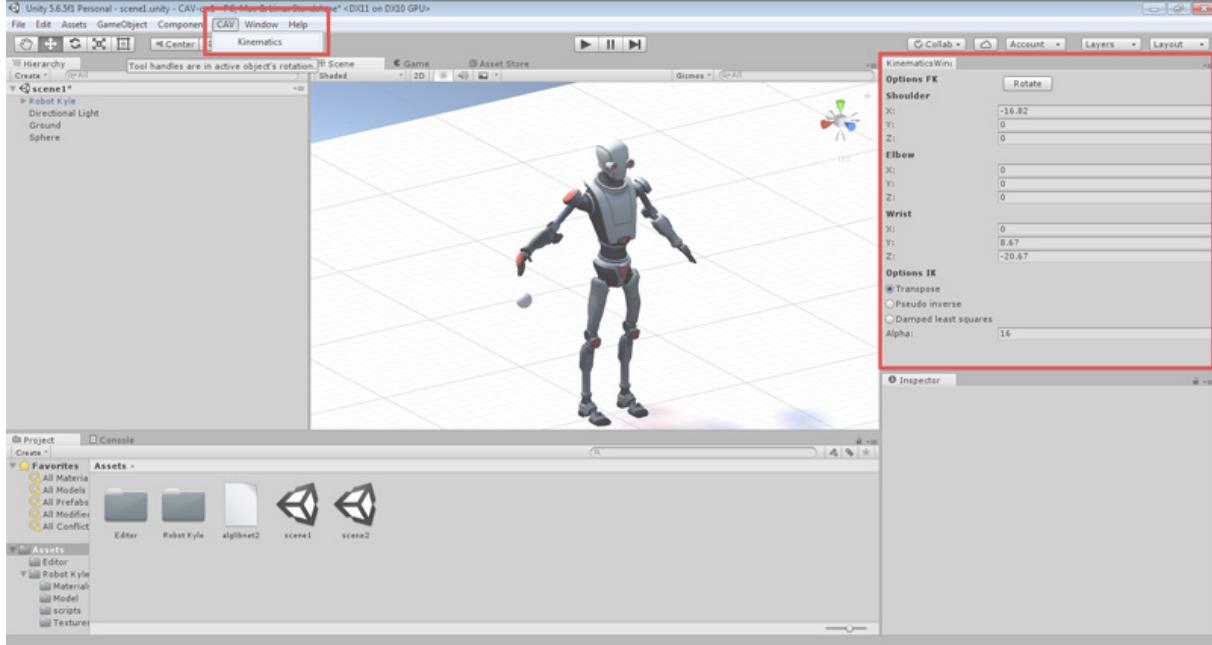

Figure 1: Custom Editor in Unity to perform kinematics
The implementation is straightforward; the text boxes in the "Options FK" section in the kinematics window shown in Figure 1 correspond to the values of joint angles. To move the chain, simply type values
In Unity, to select one of the described methods, choose the corresponding option in the “Options IK” section in the kinematics window shown in Figure 1. The transpose and damped least square methods require to input a value for the corresponding parameters; 16 and 0.1 are the recommended values respectively.
- Scene1 is the displayed one in Figures 1 and 2. Please use this scene to test the implementation.